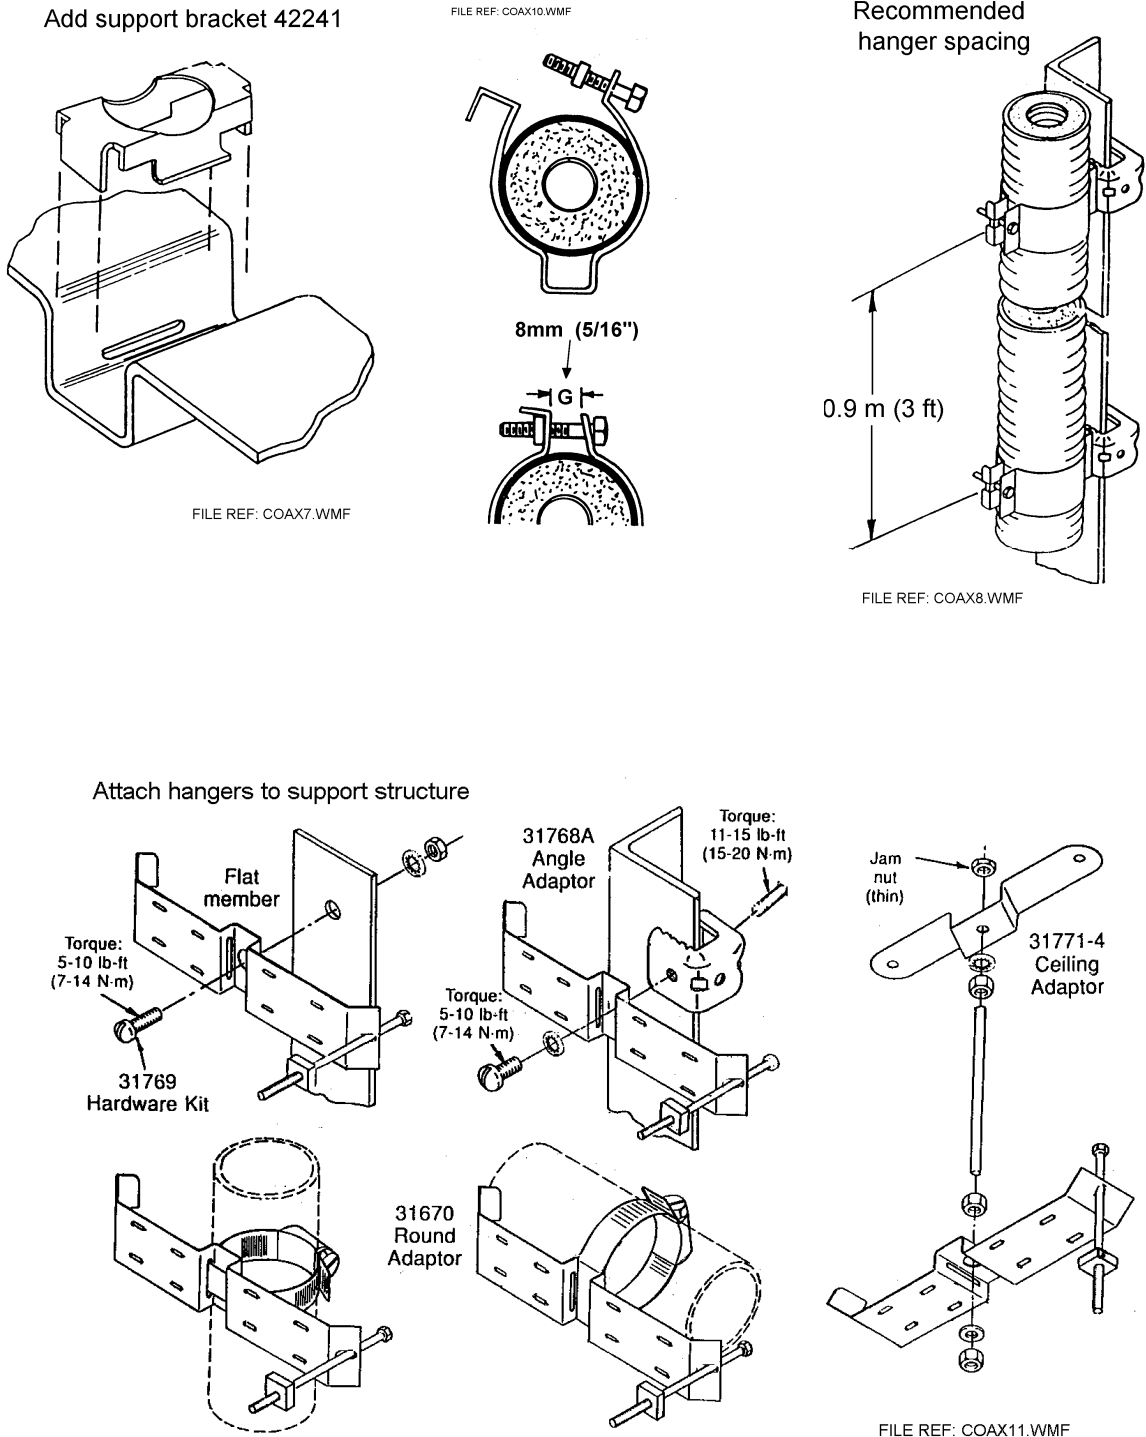

**Figure 1.28** - Deck Gland Details
9. The 7/8in. R.F. feeder cable passes through its own separate deck gland (Andrew Feed-Thru Kit Type 40656-1), positioned near to the foot of the mast. The gland kit comprises a rubber boot, metal flange halves, eight Lock-o-seal washers and an adjustable clamp (Jubilee clip). In addition eight 1/4in. bolts (of a suitable length), flat washers, lock washers and nuts will be required. See Figure 1.28.